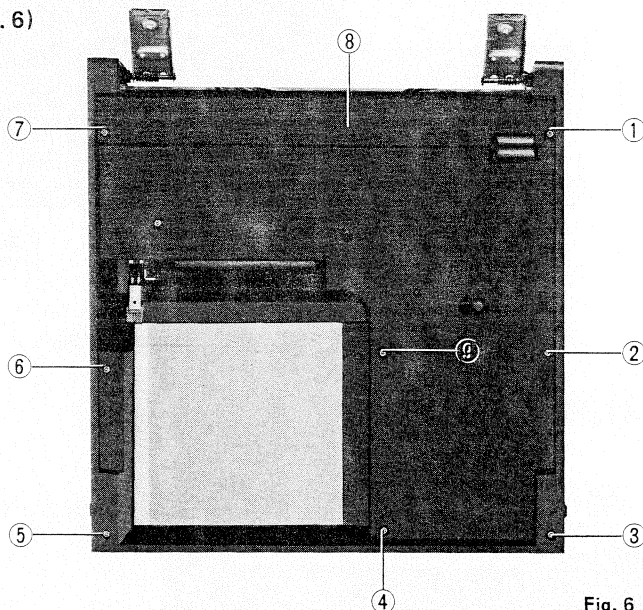

Fig. 6
5-(2) Removal of mechanism cover (Fig. 6)
2. Remove the securing black screws ① - ⑨ of the mechanism cover.